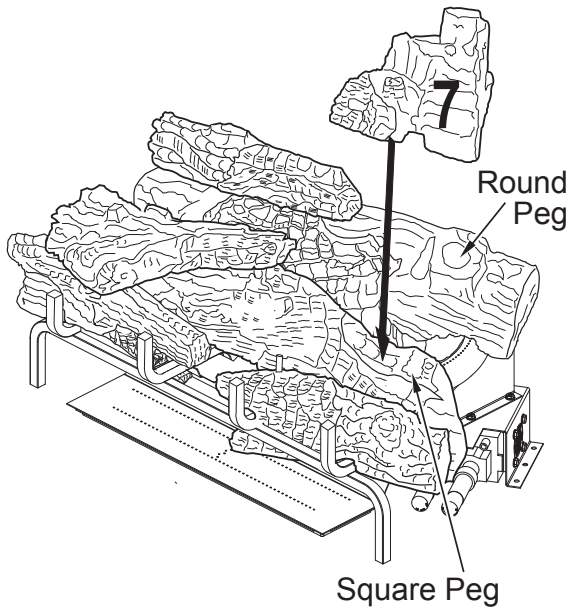

Figure 28 - Installing Log # 7
- Place the right rear chunk log (#7) on top of the middle log (#2) and rear log (#1) as shown in **Figure 28, Page 17**. Match the round peg on the top of the rear log (#1) with the round hole on the bottom of the right rear chunk (#7) log and square peg on the top of the middle log (#2) with the square hole on the bottom of the right rear chunk log (#7).